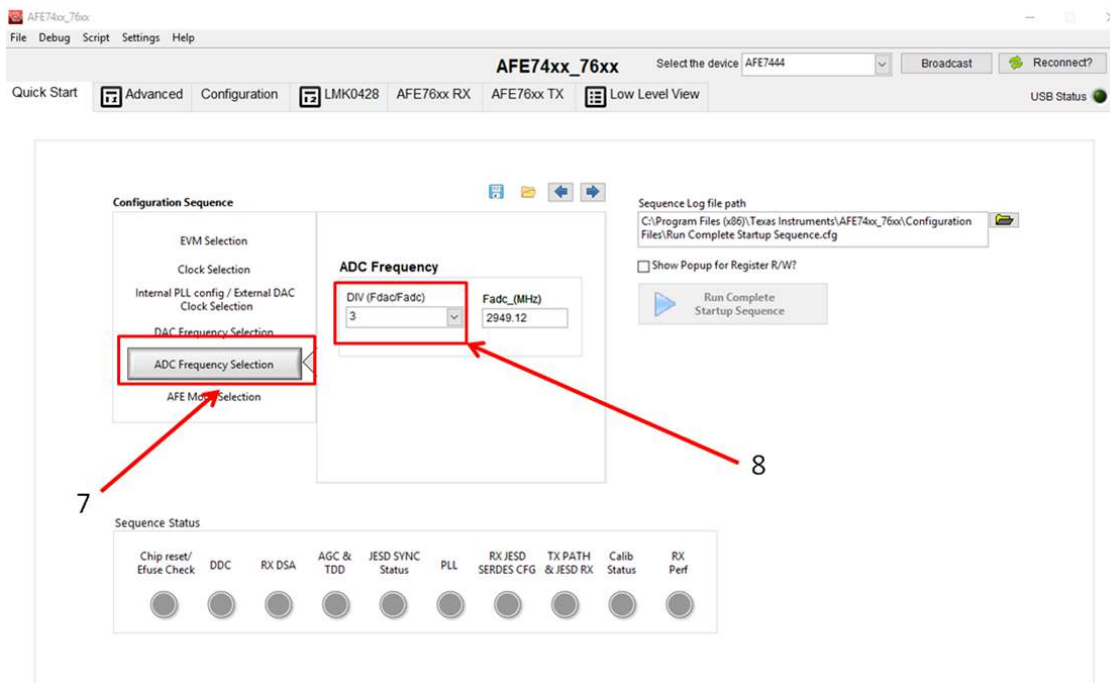

Figure 12. External Clock: ADC Clock Selection
7. Navigate to the *ADC Frequency Selection* page, labeled as 7 in Figure 12.
8. Select a DIV value of 3, labeled as 8 in Figure 12.